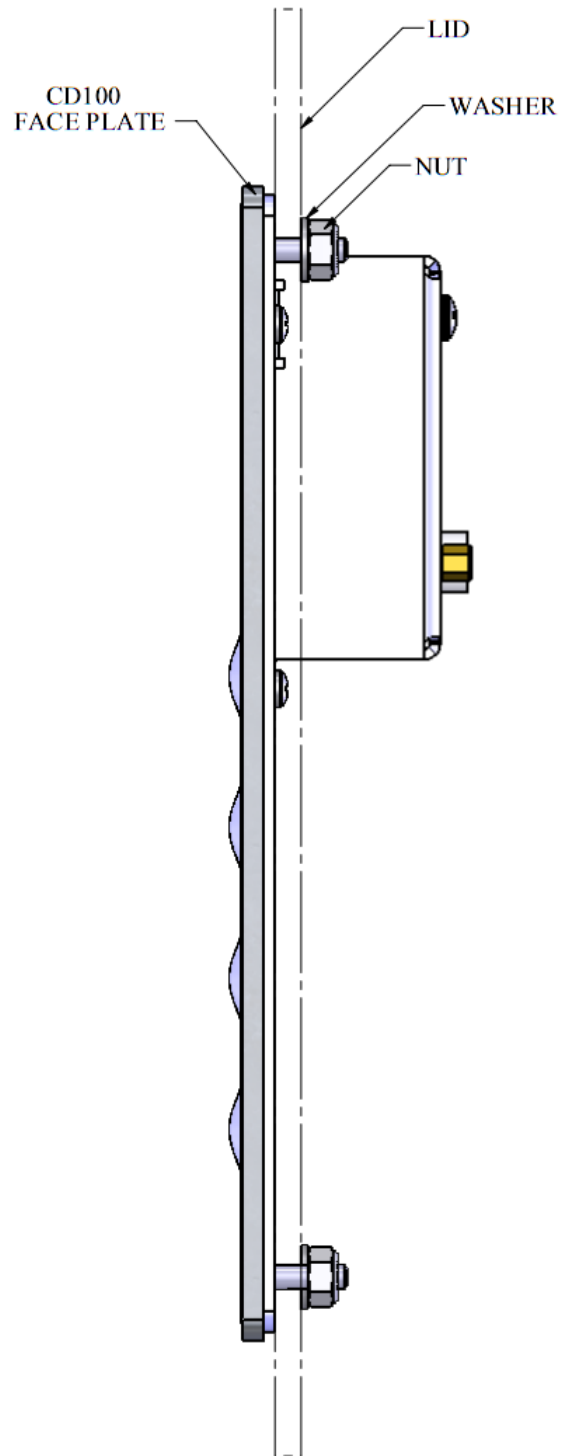

FIGURE 6-2. Profile of Installed CD100
4. Mount the CD100 as shown in FIGURE 6-2, *Profile of Installed CD100*.